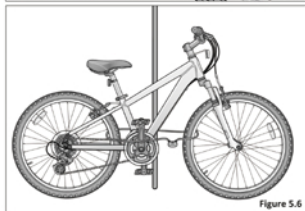

Figure 5.6
- Always lock your bicycle to an immovable object if it is left unattended. Keep in mind that individual parts of a bicycle may be stolen. Most commonly, if you lock just a wheel or just the frame, other parts may be removed from the bicycle. Although it is impossible to lock all the parts, it is suggested to lock the major components if possible. **Figure 5.6**